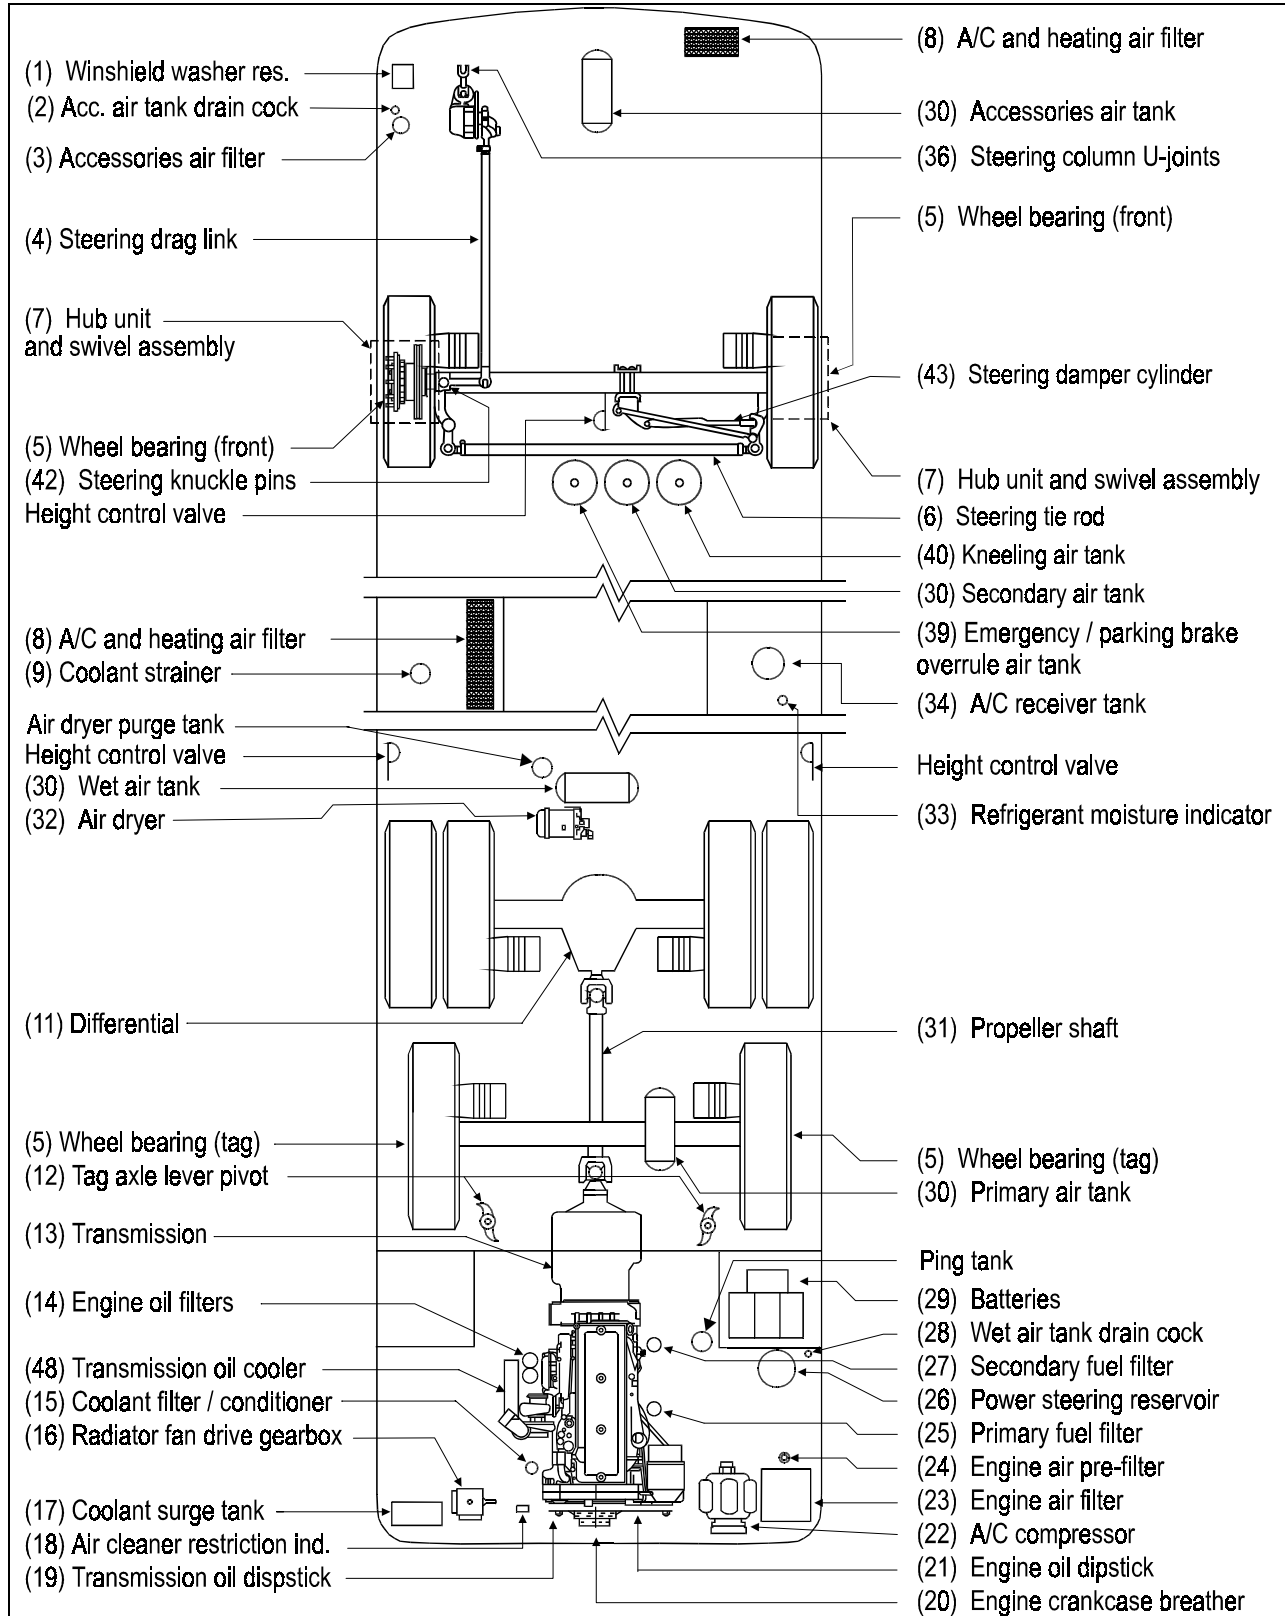

FIGURE 2: LUBRICATION AND SERVICING POINTS ON H3-41 AND H3-45 COACH MODEL (TYPICAL)
- FIGURE 2: LUBRICATION AND SERVICING POINTS ON H3-41 AND H3-45 COACH MODEL
* Item numbers refer to figures 2 and 3.
• Item numbers refer to figures 2 and 3.